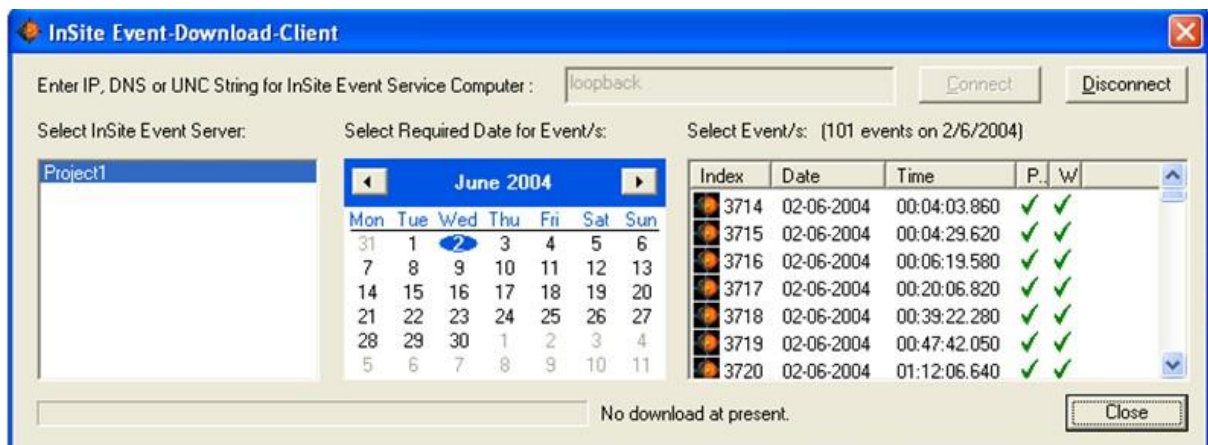

Figure 12-31: InSite Event-Download-Client Dialog box accessed from within the InSite Seismic Processor.
3. The InSite Event-Download Client Dialog box (Figure 12-31), accessed within InSite, is run by the user when wishing to inspect and/or download any of the events available on the Event-Servers. After selecting the appropriate Event-Server the user is given a calendar map (year-month-day) of all the data available. A list of events is displayed for the chosen day and the user can select any of the data required. This option therefore allows a user to easily investigate how much data has been recorded on a particular day. The user can then download the data to their own PC, either as a 'Whole Event Download' or an 'Event Parameters Download'.